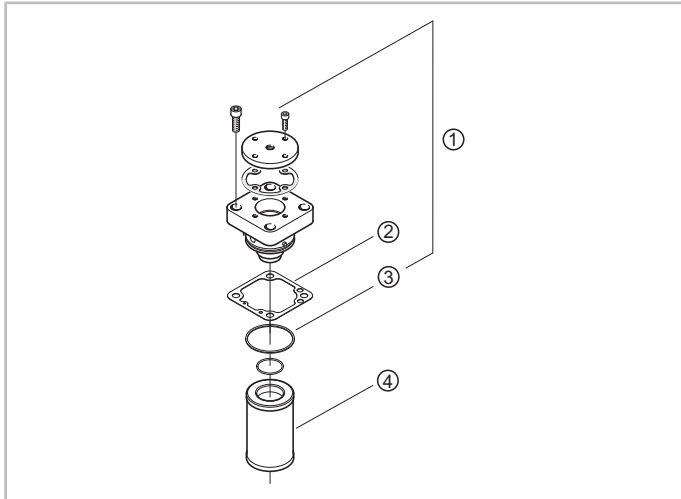

Fig. 2: Oil stop valve HS.85 and OS.85
- Ensure fitted flat gasket and O ring are new (*see figure 2, page 16*).